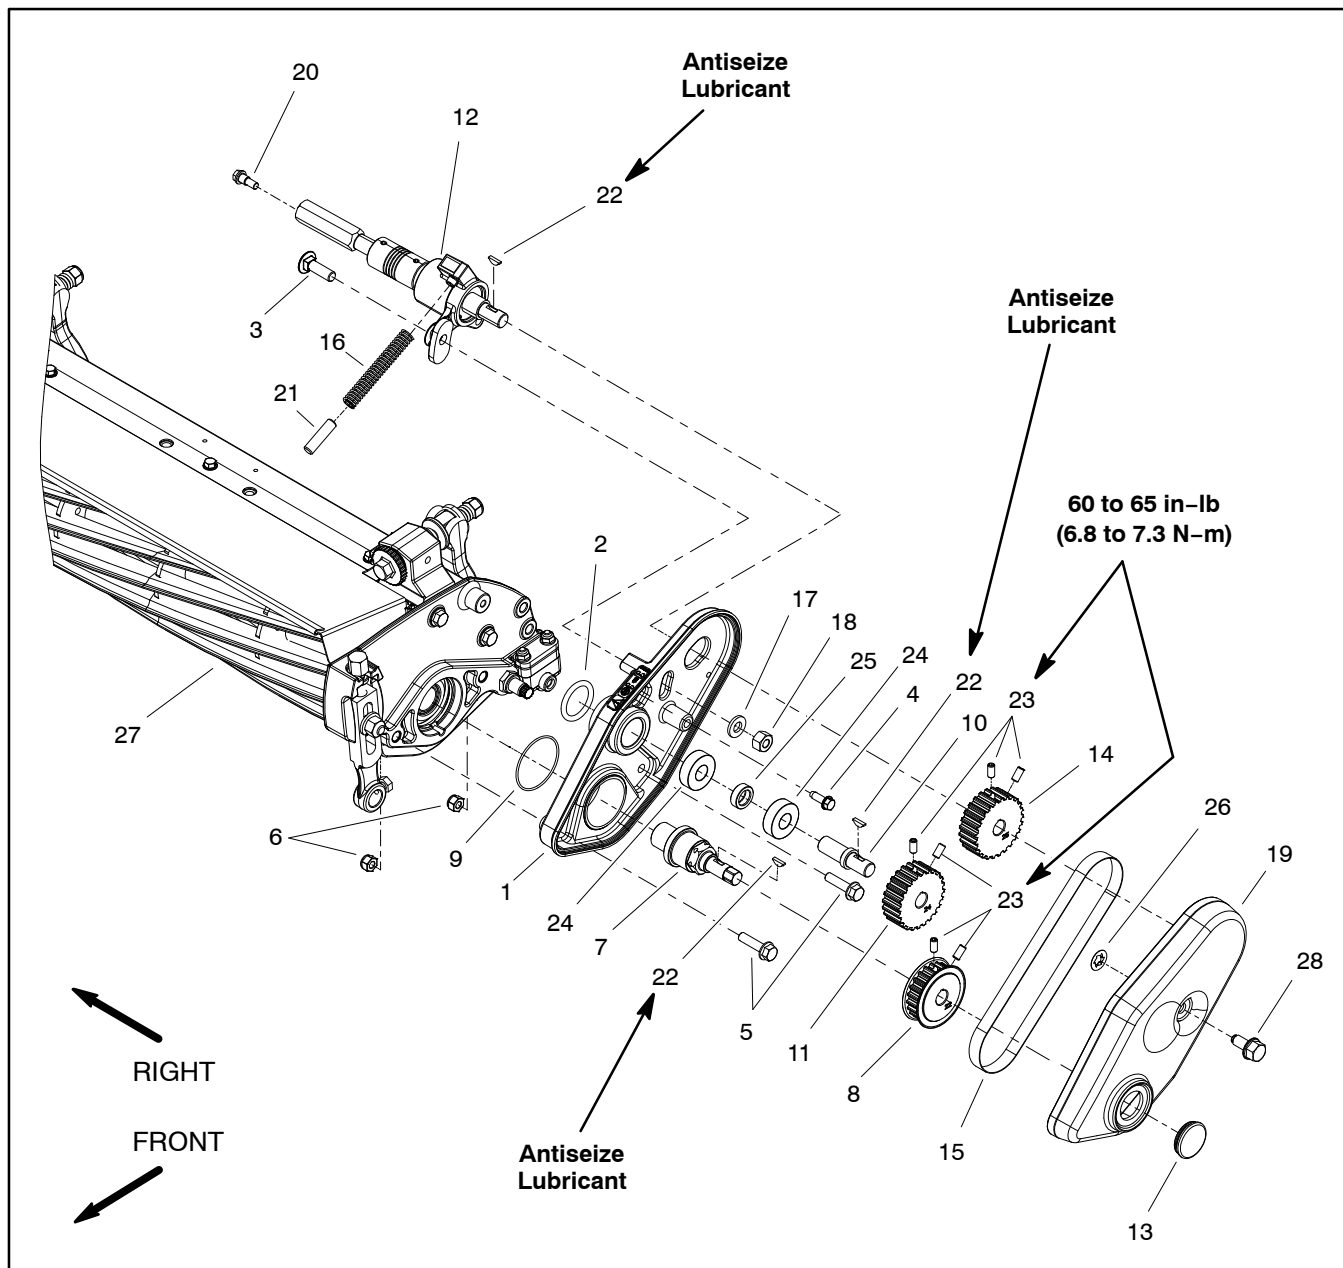
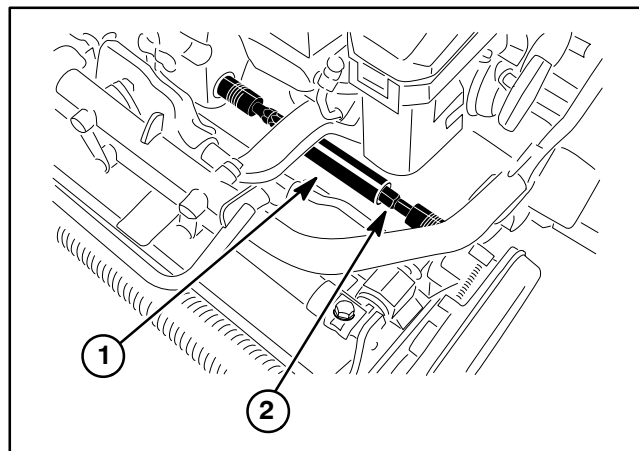

Figure 16
Figure 17
Reel Drive Assembly Removal (Fig. 16)
2. Slide the telescoping coupler off the cutting unit hex shaft (Fig. 17).
4. Loosen two (2) set screws (item 23) that secure reel pulley (item 8) to reel drive shaft (item 7). Slide pulley from drive shaft. Locate and retrieve woodruff key (item 22) from shaft.
5. Remove washer head screw (item 4) that secures reel drive housing to cutting unit side plate.
6. Remove two (2) flange head screws (item 5) that secure reel drive housing to cutting unit side plate.
8. Remove components from reel drive housing as necessary using Figure 16 as a guide.
A. If idler shaft bearings (item 24) are to be removed, use press to remove bearings and bearing spacer from shaft. Discard bearings after removal.
Reel Drive Assembly Installation (Fig. 16)
1. Install all removed components to reel drive housing using Figure 16 as a guide.
- A. If bearings (item 24) were removed from idler shaft, use press to install bearings and bearing spacer onto shaft.
2. Apply light coating of grease on reel drive housing O-rings (items 2 and 9).
3. Position reel drive assembly to cutting unit. Make sure that spring pin (item 21) and compression spring (item 16) are positioned between reel drive housing and bearing housing assembly.
4. Secure reel drive assembly with two (2) flange head screws (item 5) and washer head screw (item 4).
5. Install woodruff key (item 22) to reel drive shaft (item 7). Apply antiseize lubricant to top of key.
6. Slide reel pulley (item 8) onto reel drive shaft until it contacts shoulder on shaft. Secure reel pulley with two (2) set screws (item 23). Torque set screws from **60 to 65 in-lb (6.8 to 7.3 N-m)**.
8. Slide the telescoping coupler onto the cutting unit hex shaft (Fig. 17).